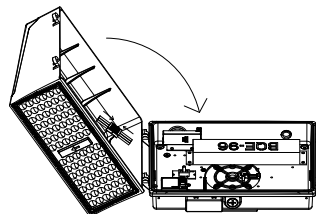

Figure 30
10. Reinstall the heat sink and reconnect the terminals between the CCT Switch and the LEDs. (see Fig. 30)